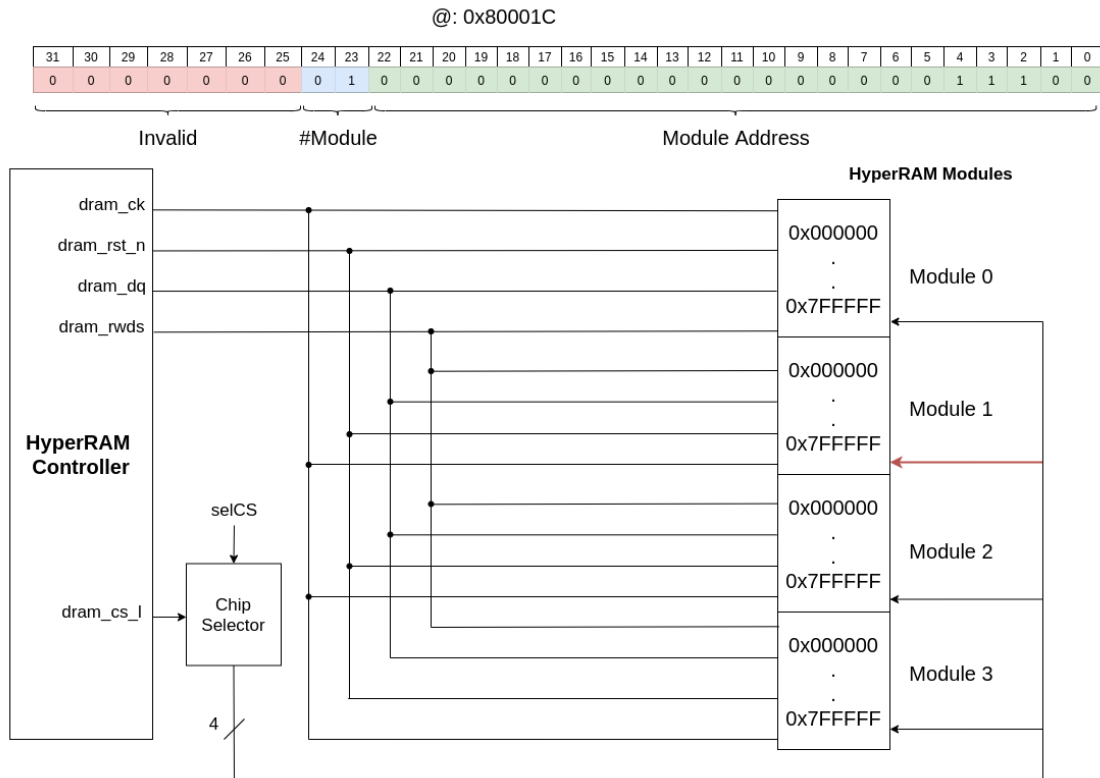

Figure 6: Access in address 0x80001C in multiple modules chips
In case of having more than one memory module, the way to access them is not as tricky as we told before. The only thing to take into account is in which module we have to put down the signal Chip Select (CS). As we do sequential accesses, the best option is as shown in Figure 6. Supposing that we have four chip modules, the chip selector module works as a binary decoder, in which the signal *selCS* will have the value of 24 and 23 bit of the address to choose the corresponding module to access. All the signals, except the chip selector, are connected to all memory modules. Each one will not heed these signals if its corresponding Chip Select signal is not set to low.